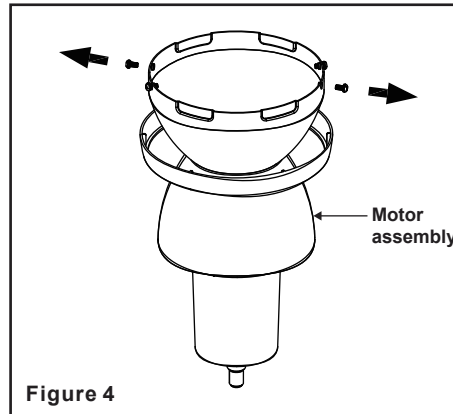

Figure 4
**Step 2.** Remove two diagonal mounting screws on the round holes, keep for later use. And loosen the other two screws (Figure 4).